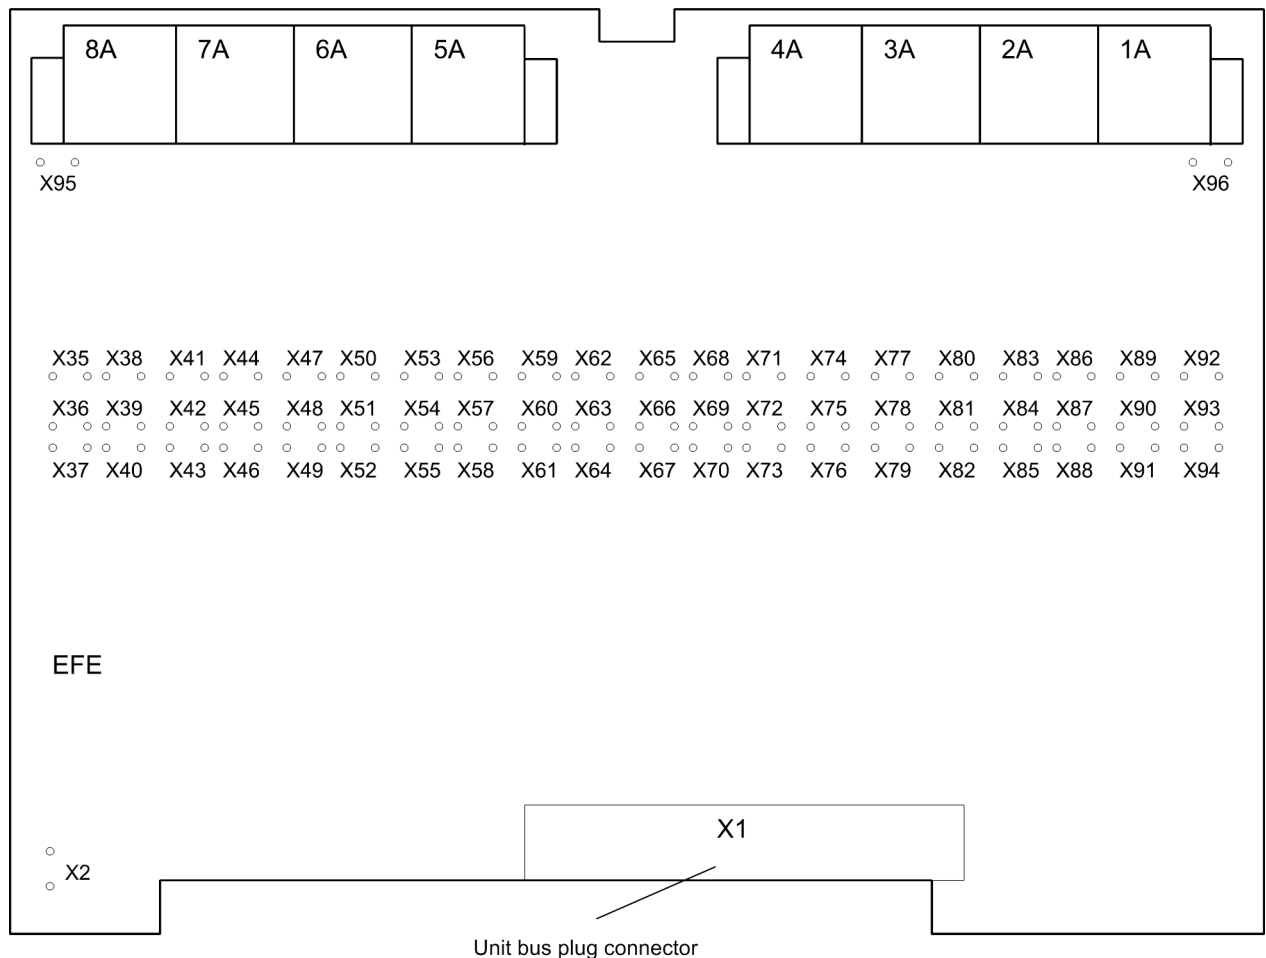

Figure 3-3 Location of the jumpers on the EFE module (bay unit 7SS523)
- ❑ Remove the plug connector X1 to the front plate on the EFE module (Figure 3-3, page 55) and pull out the module.
- ❑ Change the rated control voltages of the binary inputs to the desired settings, see Figure 3-3, page 55 and Table 3-3, page 56.